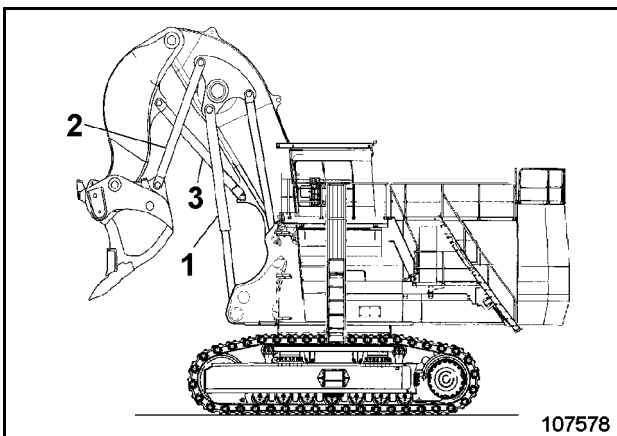
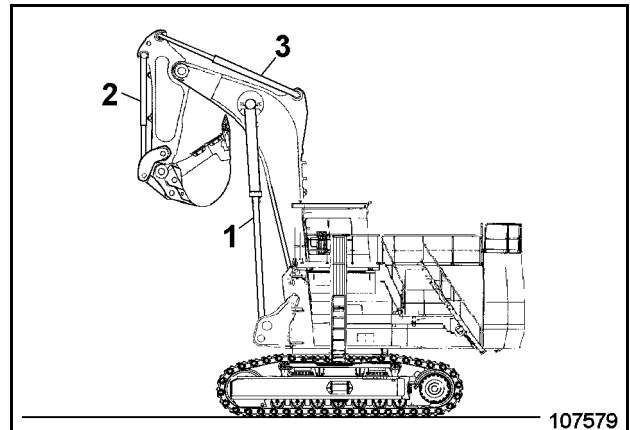

Fig. 2-87:
Fig. 2-88:
- Raise the equipment (Fig. 2-87:) or (Fig. 2-88:).